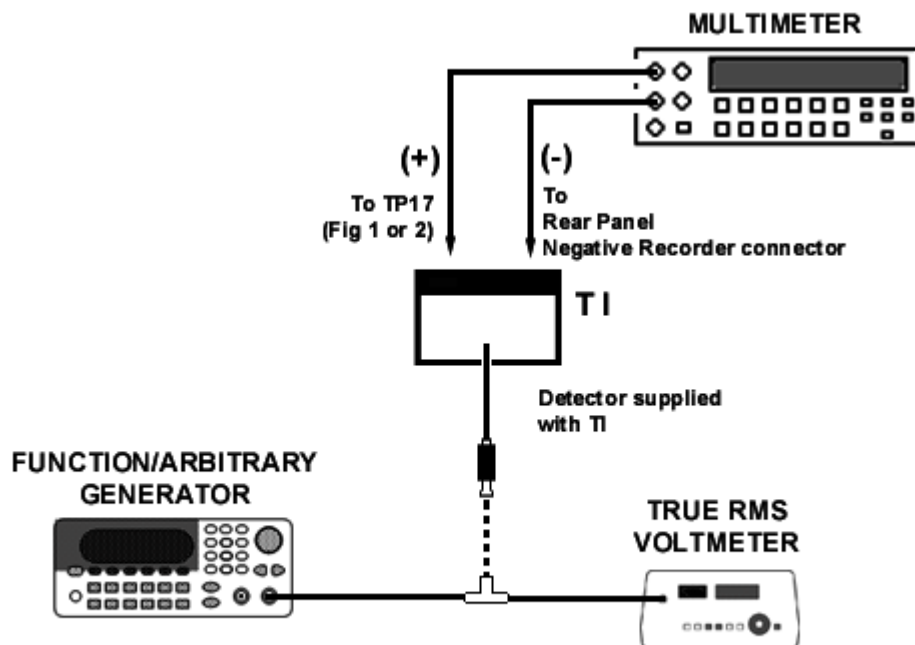

Figure 3. Main gain - equipment setup.
- (1) Zero TI meter as described in paragraph 7 h above.
- (2) Remove top protective cover from TI.
- (3) Connect equipment as shown in figure 3.